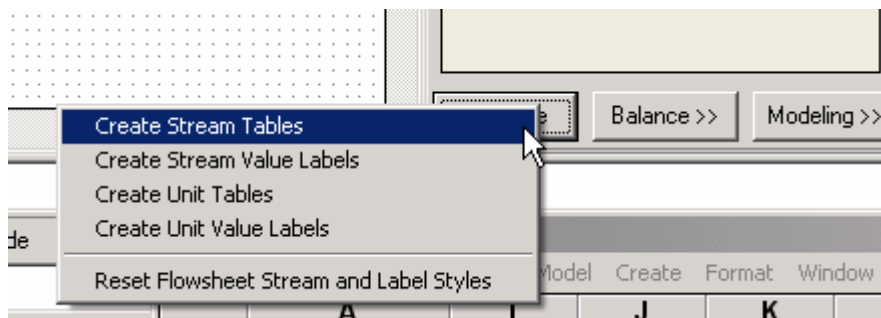

Figure 27. Creating Stream Tables.
- In the “Experimental” tab, press the “Visualize” button and select “Create Stream Tables” (Figure 27)